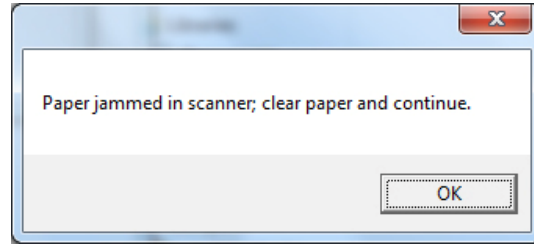

Figure 5-209
- 8) If a paper jam occurs during the adjustment because of the document setting position, the screen shown in Figure 5-209 appears. Remove the registration adjustment sheets, set the 3 registration adjustment sheets again, and repeat the adjustment.